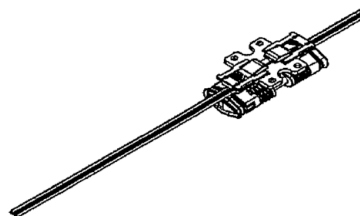

Fig. 2
- c. Put seal belt through piston assembly and assemble it to cylinder tube as shown in Figures 2 and 3.